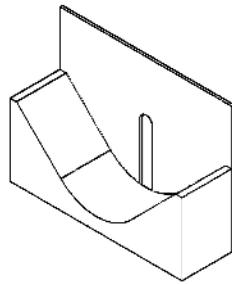

Fig. 3: IGT V-form Delamination viewer
- 4.2. Assess the test strip and mark the point where delamination begins. See fig. 3.